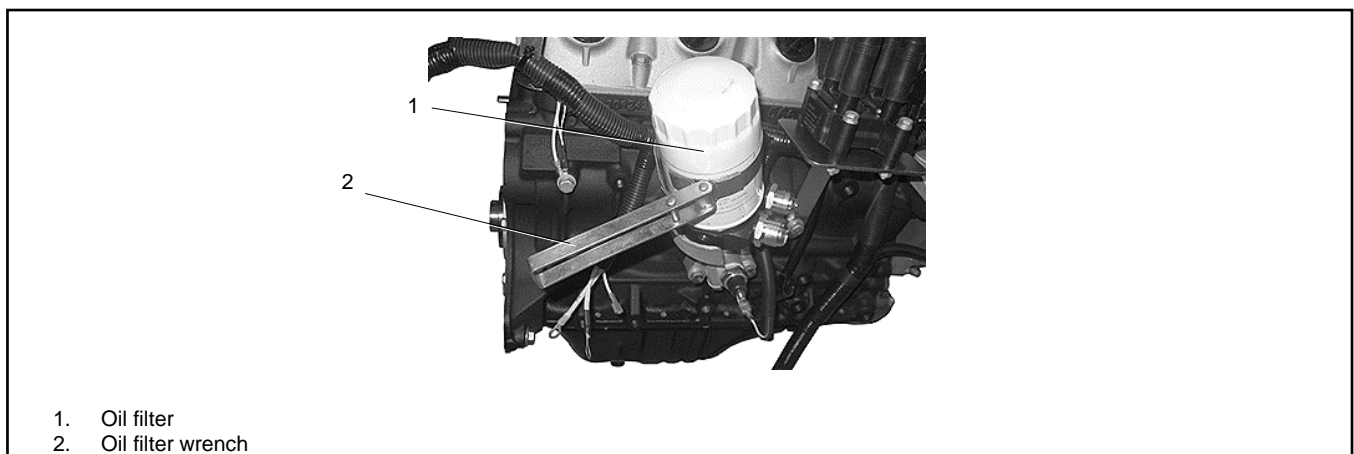

Figure 29 Oil Filer with wrench
4. Using an oil filter wrench, remove the old oil filter. See Figure 29.